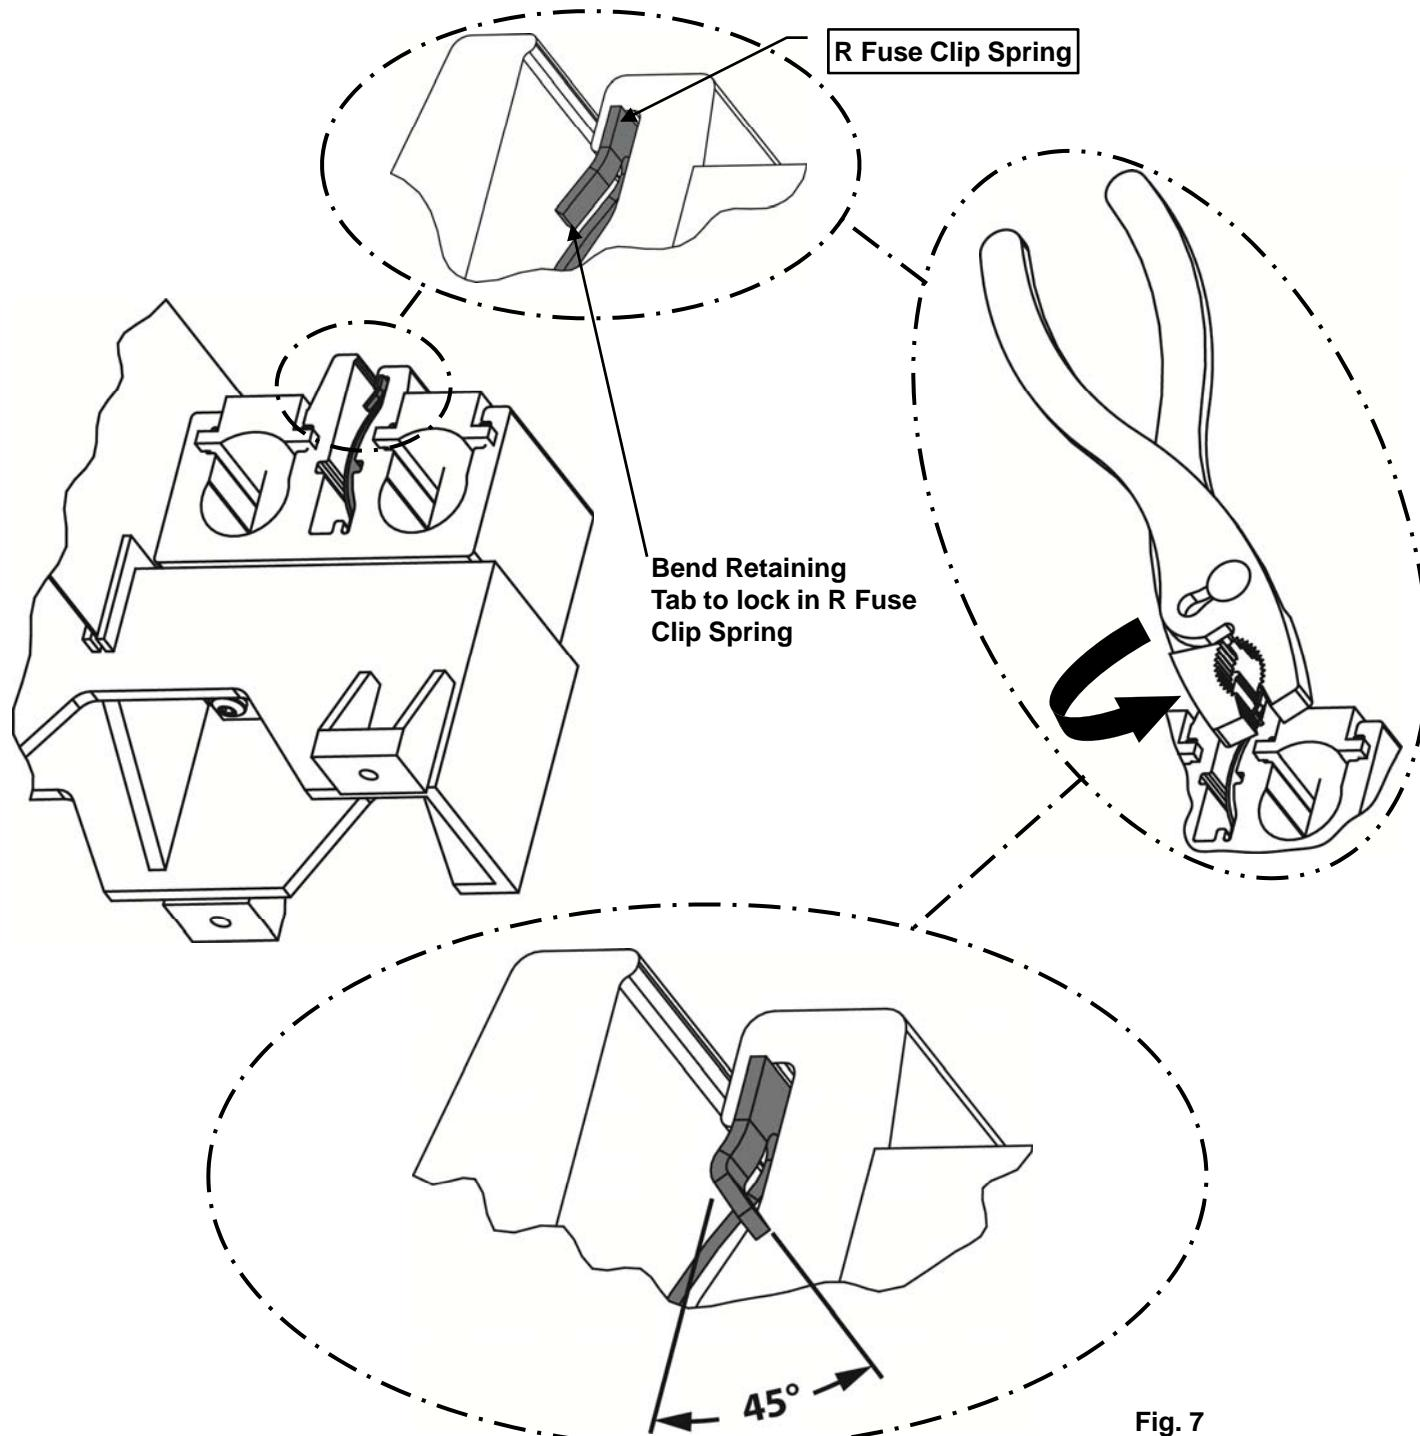

Fig. 7
- Once the R Fuse Clip Spring is fully inserted into the channels, bend the Retaining Tab projecting from the other side of the channel (Fig. 7) to prevent the spring from falling out.